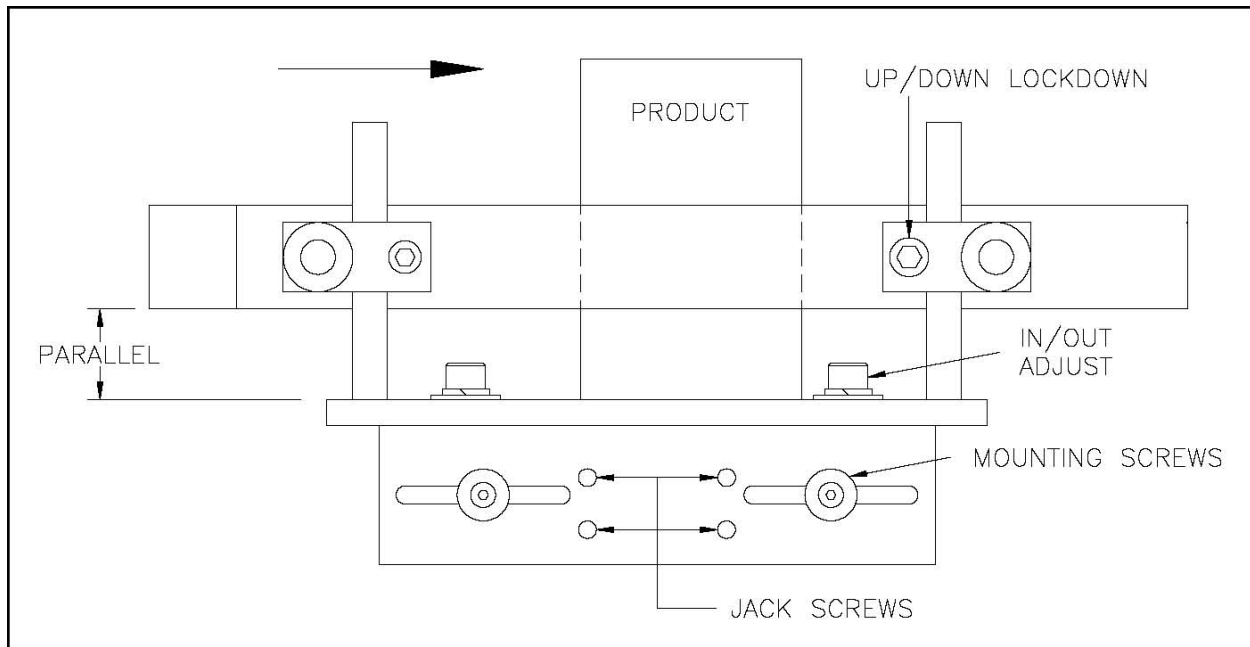

Figure 51 Pressure Bar Adjustments
4. Refer to Figure 51 and check that the pressure bar is parallel to the product.